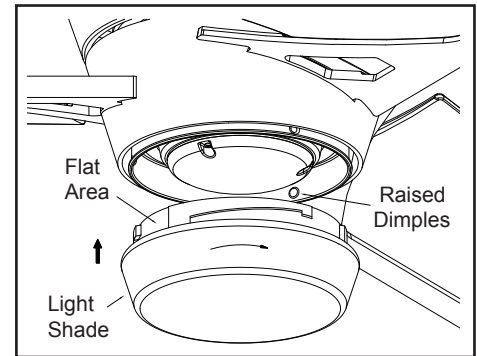

Figure 17
5. Place the light shade into the light kit pan, aligning the three flat areas on the top of the light shade with the three raised dimples in the light kit pan. Turn the light shade clockwise until it stops. (Figure 17)